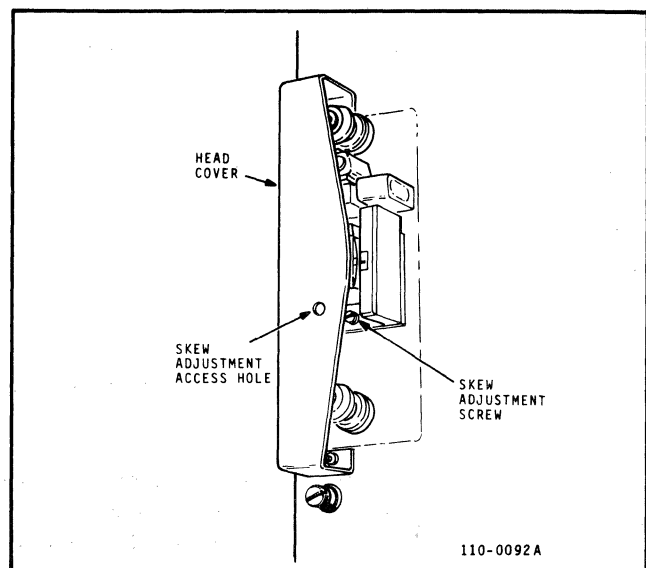

Figure 4-3. Read Skew Adjustment
- Observe SKEW indicator and adjust skew adjusting screw on the head mounting plate (Figure 4-3) until indicator does not come on.